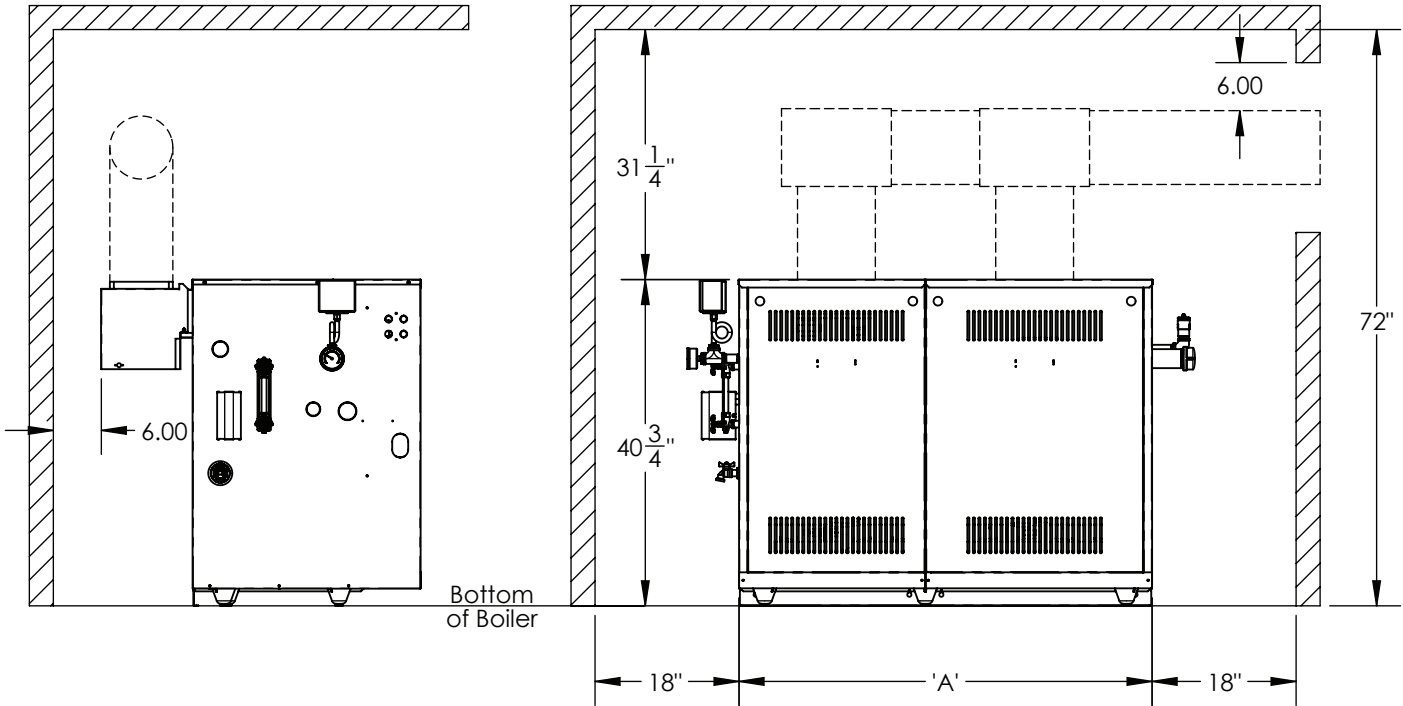

Figure 4-3: Minimum Alcove Clearances 49-350S through 49-550S
- A. See Figure 3-5 and Table 6-4 for vent sizes and locations. See Figure 4-3 for clearances.